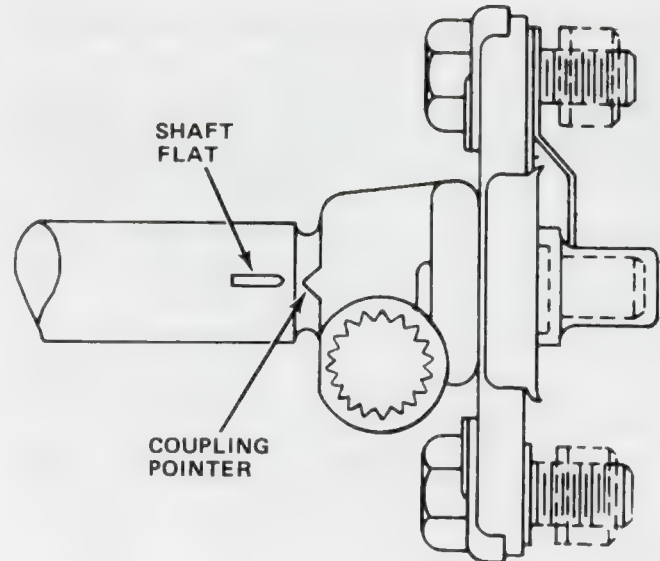

Fig. 2J-4 Shaft and Flange Alignment
(1) Remove flexible coupling-to-intermediate shaft attaching nuts.
(2) Raise and support car.
(3) Remove pitman arm using Puller J-5566-04 (fig. 2J-2). Paint alignment marks on pitman arm and pitman shaft for assembly reference.
(4) Remove steering gear mounting bolts and remove steering gear.
(1) Align steering gear flexible coupling and intermediate shaft flange. Coupling has pointer which must align with flat on shaft (fig. 2J-4).
(2) Install steering gear and tighten mounting bolts to 65 foot-pounds (88.1 Nm) torque.